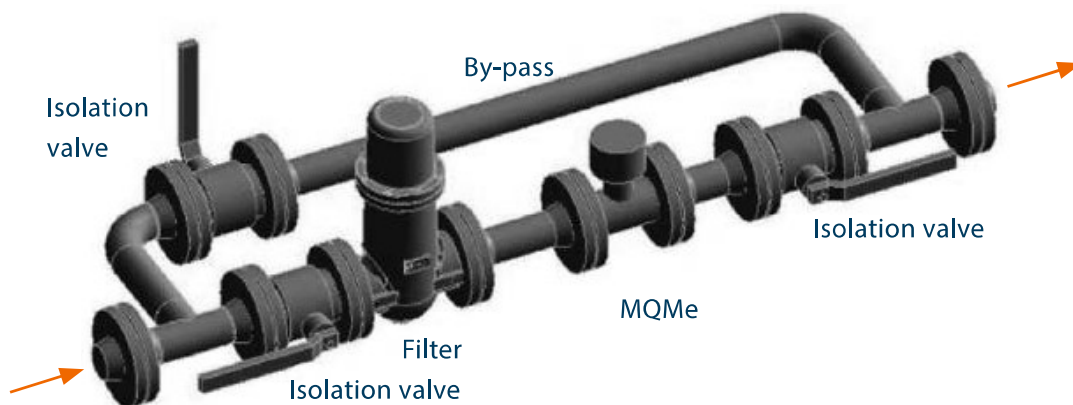
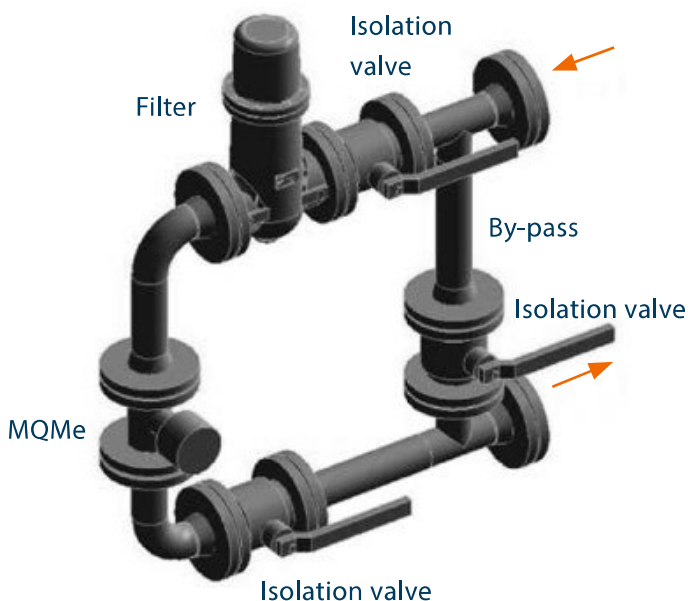

Figure 2: Typical horizontal installation of the MQMe Quantometer (recommended)
Figure 3: Typical vertical installation of the MQMe Quantometer
1. Open slowly the upstream valve (fig. 2 and fig. 3)
4. Slightly open the downstream valve (fig. 2 and fig. 3).